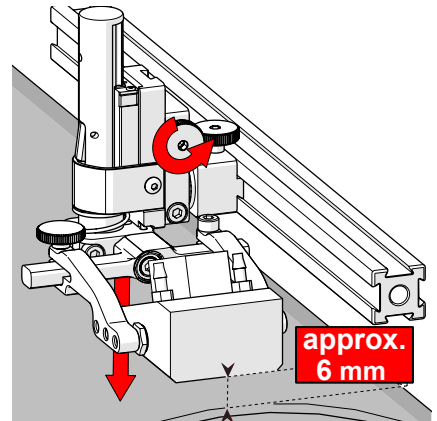

Fig. 112 - Lower toward scan surface
3. Tighten the vertical adjustment knob (Fig. 112).